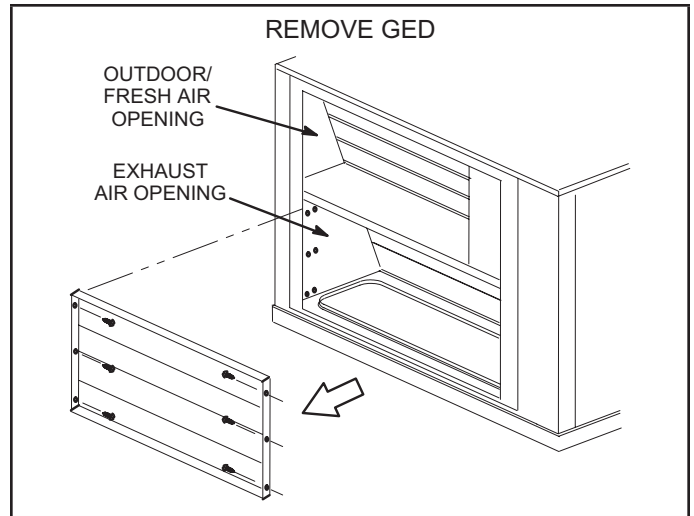

FIGURE 6
- 1 - Remove GED from the economizer and install in the fresh / exhaust air hood when optional power exhaust fans are installed. See FIGURE 6.